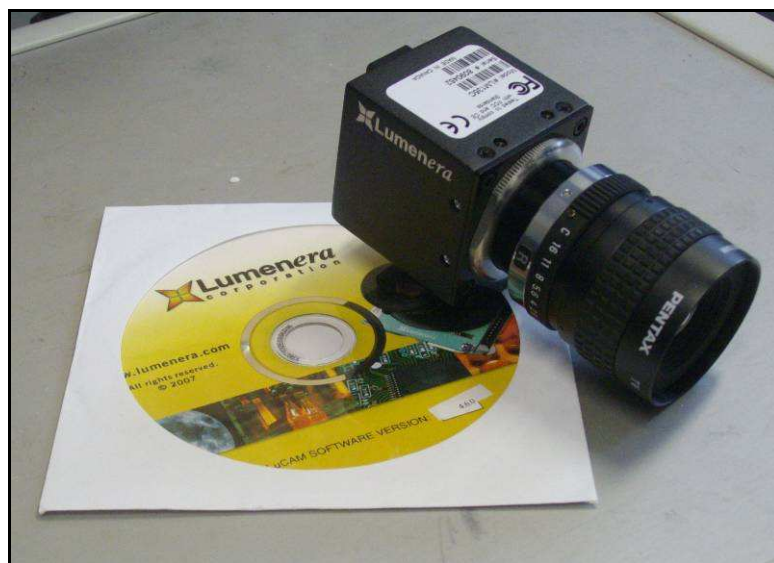

Fig. D. 1 – Videocamera “Lumenera LM135C”
Step 1 Install the drivers of the camera in the acquisition PC launching the dedicated CD-ROM for Lumenera camera, LM135C model, having a resolution of 800x600 pixels (see Fig. D. 1) pressing in sequence *Next/Continue Anyway* buttons. As you finish with success the installation, reboot the PC. To install correctly the drivers, user has to be connected as System Administrator.